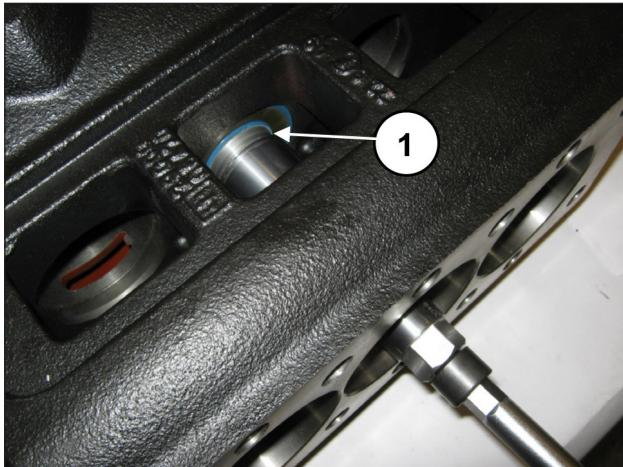

Fig. 34
Insert the tool between the rod and the seal ring (pos. ①, Fig. 34) and, with the extractor hammer, complete insertion of the tapered section inside the seal ring (pos. ①, Fig. 35).